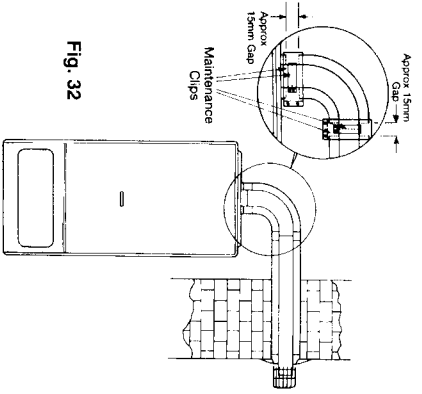

Fig. 32
- 8.16.5 Remove screws on large maintenance clips (fig 32) and remove clips, loosen screws on the small clips and remove flue elbow.